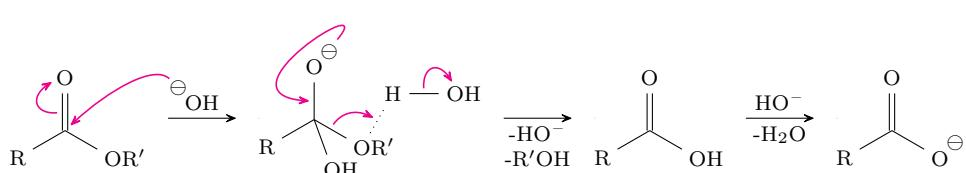

Figure 4.28: Ester hydrolysis mechanism (basic).
- The mechanism is analogous to Figure 4.28.[8]
- The mechanism is also analogous to Figure 4.28, and we don't need base because HNR2 is one!
- Conundrum: Like with basic ester hydrolysis (see Figure 4.28),  $\text{NR}_2^-$  is a poor leaving group.